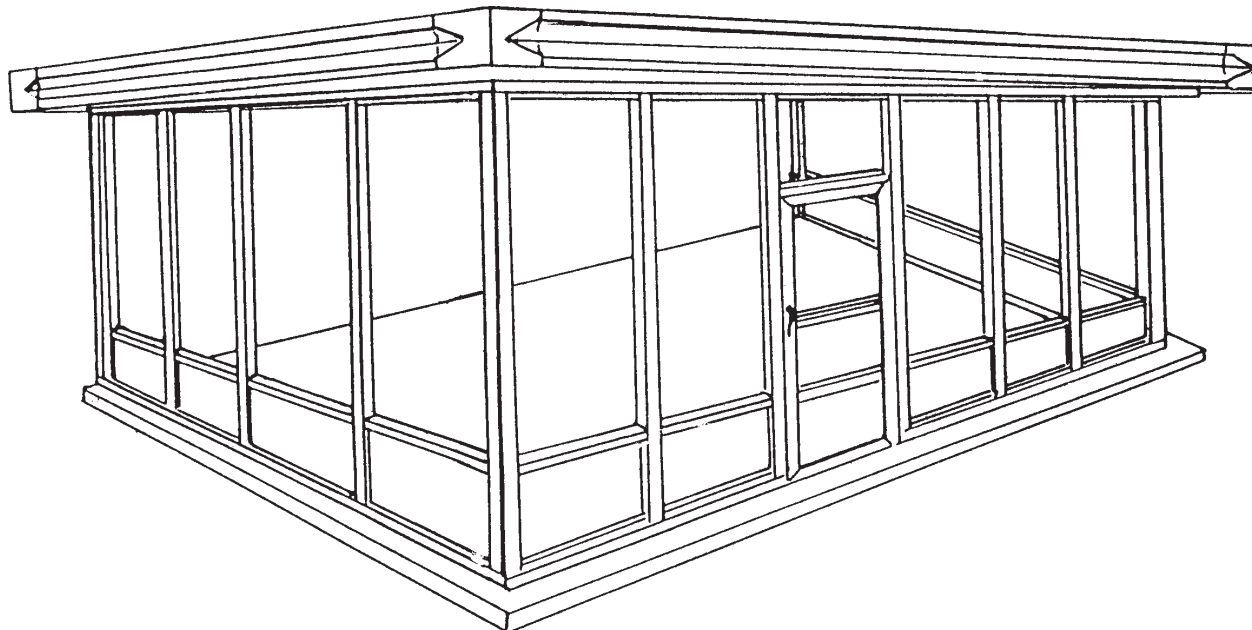

Figure 5
STEP 5B: INSTALL OPTIONAL 2" X 2" CHAIR RAIL MULLION (Figure 5)